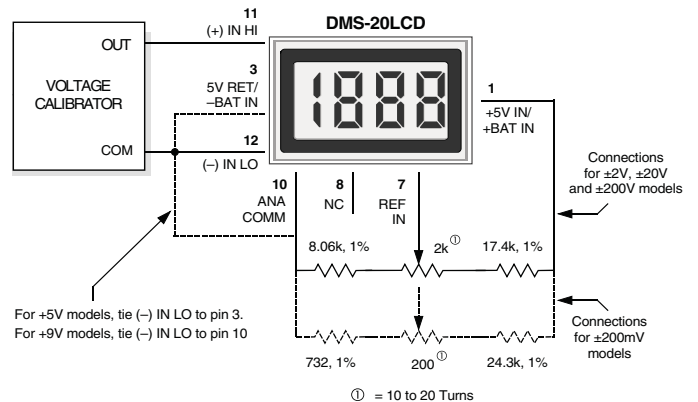

Figure 9. External Gain Adjustment
6. **Gain Adjust:** There is a gain-adjust potentiometer on the back of each meter. It has approximately ±50 counts (±2.5%) range of adjustment. Since these devices essentially have no zero/offset errors, a gain adjustment is effectively an overall accuracy adjustment. Though they may be performed at any point (except zero), accuracy adjustments are most effective when performed with higher level input signals. The circuit shown in Figure 9 provides ±10% range of adjustment.
7. **External Gain Adjustment:** Connect REFERENCE OUT (pin 8) to REFERENCE IN (pin 7) for normal, factory calibrated, operation. Use the circuit shown in Figure 9 for applications needing external gain adjustment. Calibration is performed with a precise, near-full-scale, input voltage.